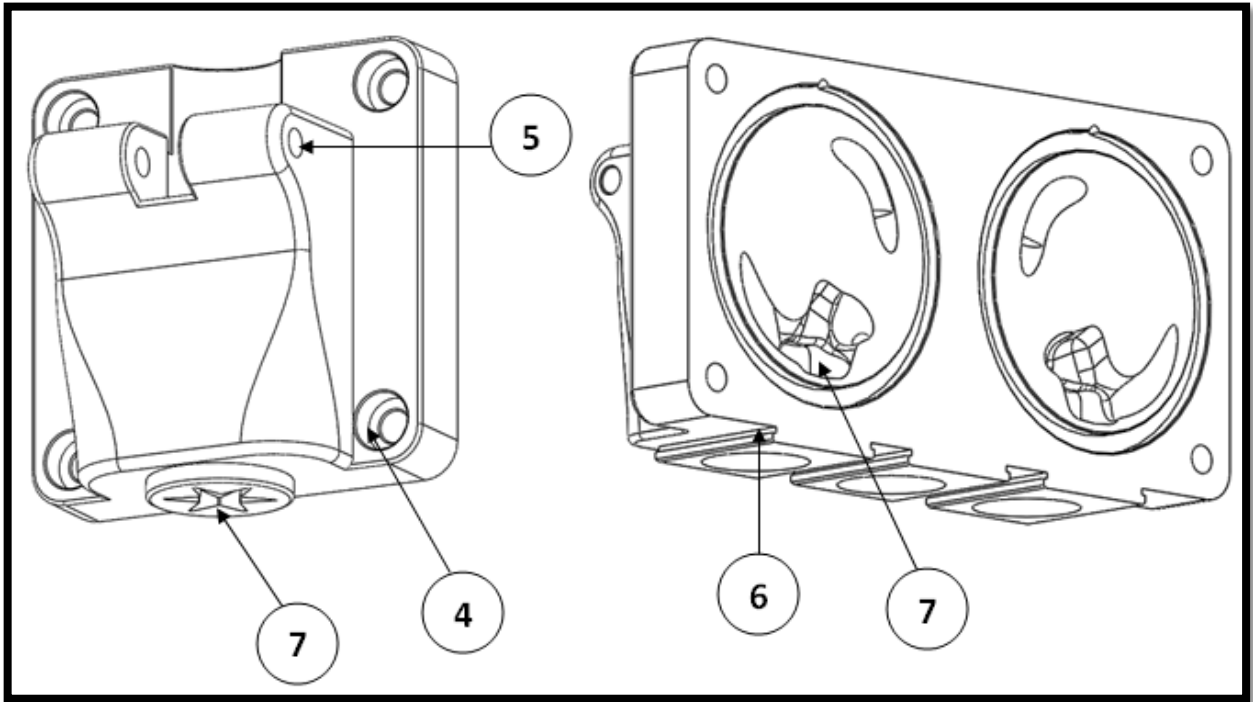

Figure 11
**Do NOT fill above the upper hole of the air tube. (Figure 11)**
9. Remove and disassemble the dispense Head, Piston, Beater and O-rings. .(Please use the o-ring remove apparatus. (Figure 11))